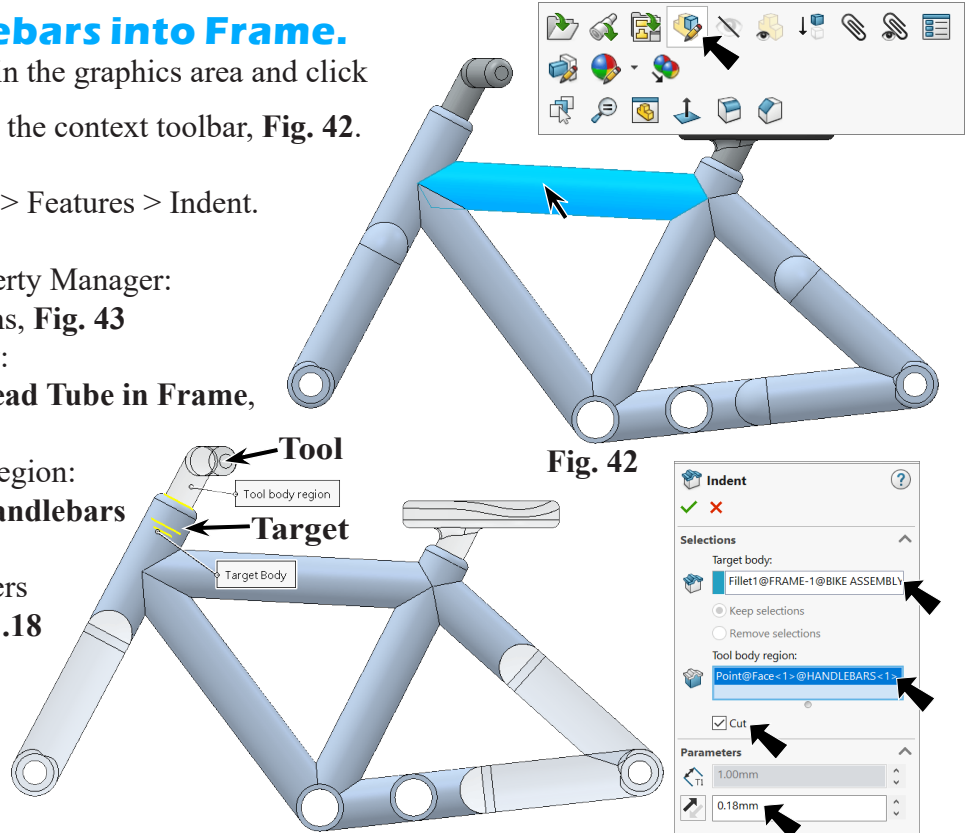

Fig. 42
Step 1. Click **Frame** part in the graphics area and click **Edit Part**  on the context toolbar, **Fig. 42**.